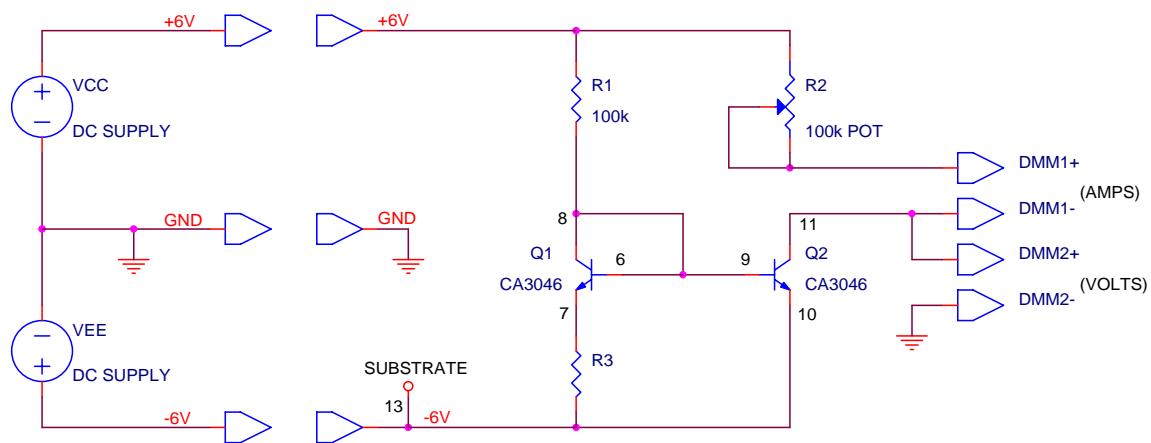

Figure E3.2b
More Set-up Turn the dual DC power supply OFF, and replace R3 on the emitter of Q2 with a wire. Add a new resistor R3 in series with the emitter of Q1, as shown in Fig. E3.2b.
When R3 is under the emitter of Q1 as shown in Fig. E3.2b, the voltage drop across R3 makes $V_{BE2} > V_{BE1}$, for which $I_{C2} > I_{C1}$. This is a boosting Widlar current source. The value of R3 to obtain a specific current from the Widlar current source is given by $R3 = [V_T \ln (I_{C2}/I_{C1})]/I_{C1}$. Calculate the value of R3 for this Widlar current source to produce $I_{C2} = 1$ mA. You should obtain a value in the range of 150-200 Ω . Locate a standard resistor close to your calculated value and insert it into the breadboard.
- (b) Calculate the output resistance of the boosting Widlar current source of Fig. E3.2b.